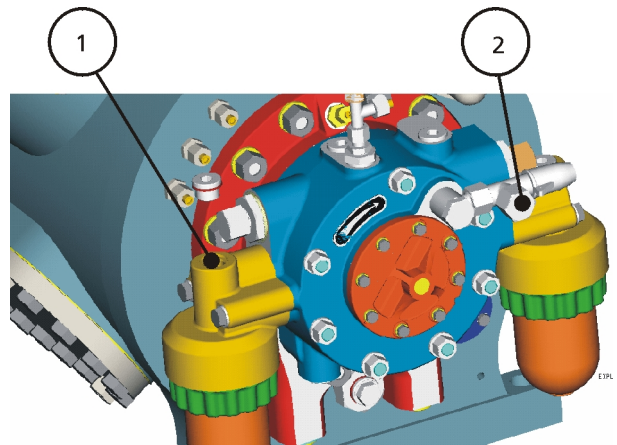

Fig.140
Prelubricate the lubrication oil circuit via the oil charge valve mounted on top of the oil pump housing (Figure 140, Page 57 pos 2)!